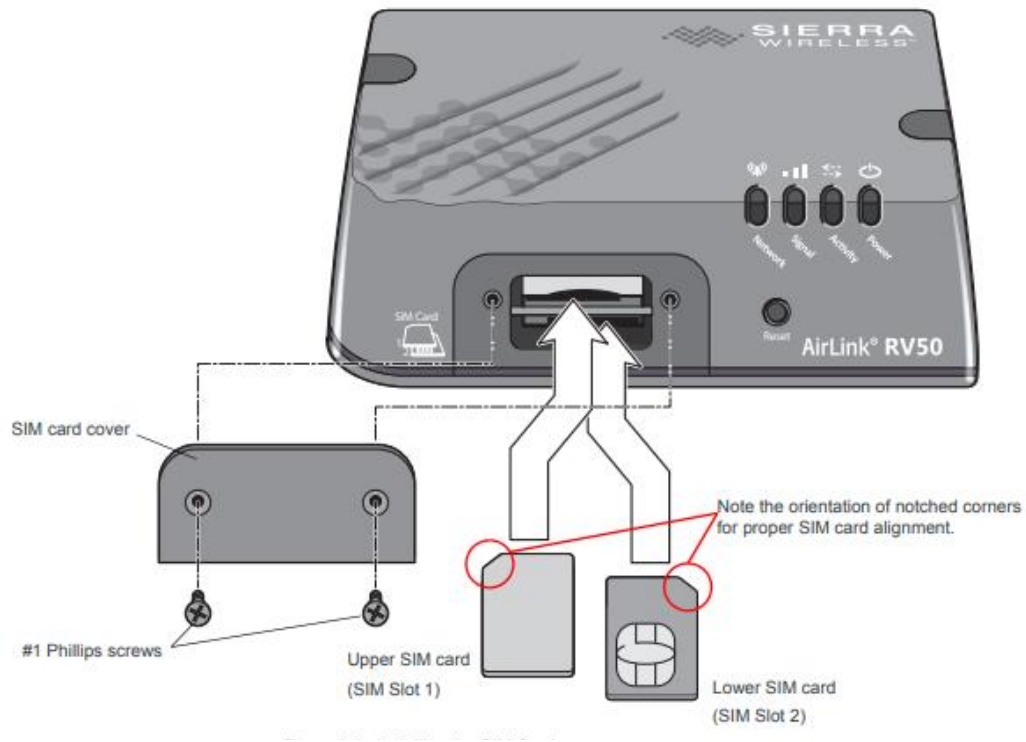

Figure 11 The orientation of the SIM cards in the SIM Card holder
- Insert either 1 or 2 SIM cards. Orientation should be as illustrated in Figure 11.